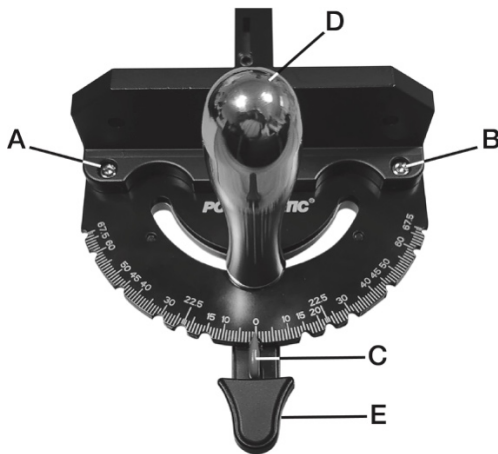

Figure 18C
2. Loosen screws A and B as shown in Figure 18C.
### Adjusting Miter Gauge Angle for Operations (model PM1000T, refer to Figure 18C):